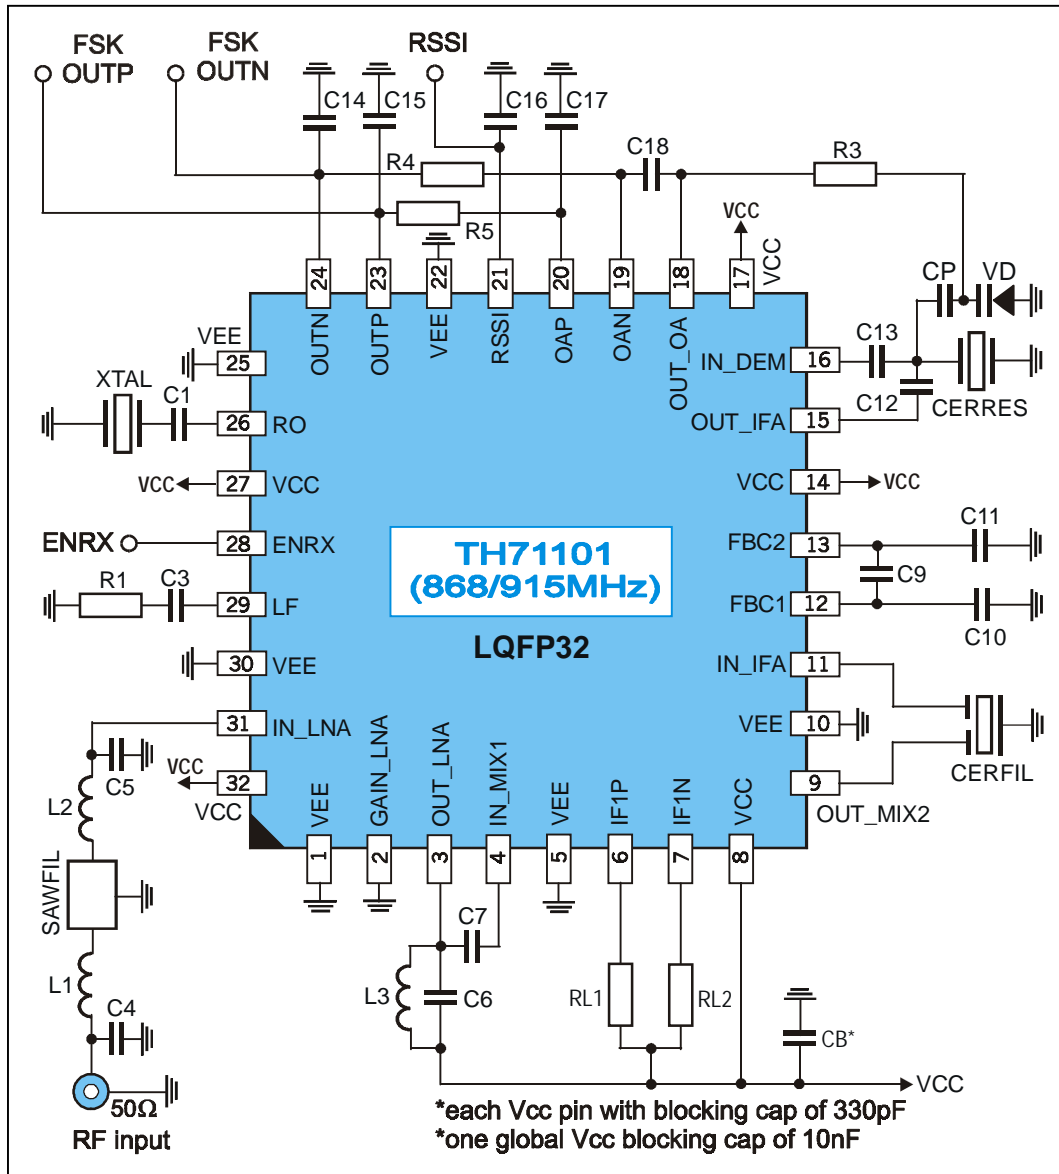

Fig. 3: Test circuit for FSK with AFC and resonator compensation
**FSK test circuit with AFC component list to Fig. 3**